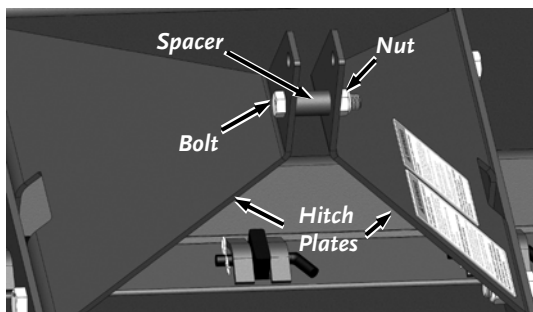

Figure 8
5. Loosely install the M20 Bolt, Spacer and M20 Nut in the second hole from the top of the Hitch Plates (**Figure 8**).